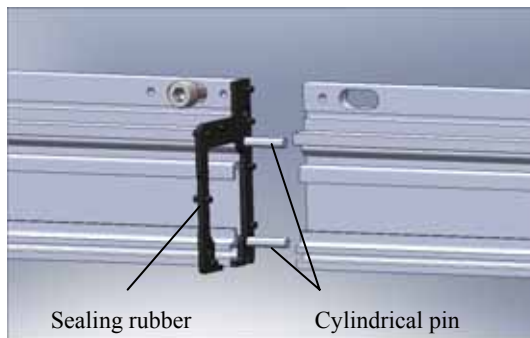
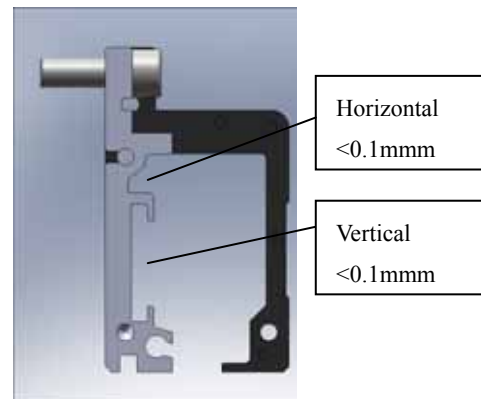

Fig. 5.2 Casing connection
Fig. 5.3 Correction of surface
- (2) **Installation of scale casing:** Install the casings of head, standard and end sections accordingly to the reference face. Connect all casings with cylindrical pins, and apply sealing rubber to the connections without any gap as shown in Fig. 5.2, so as to ensure good sealing. After installation, correct the surface to a range within 0.1mm horizontally and vertically as shown in Fig. 5.3.